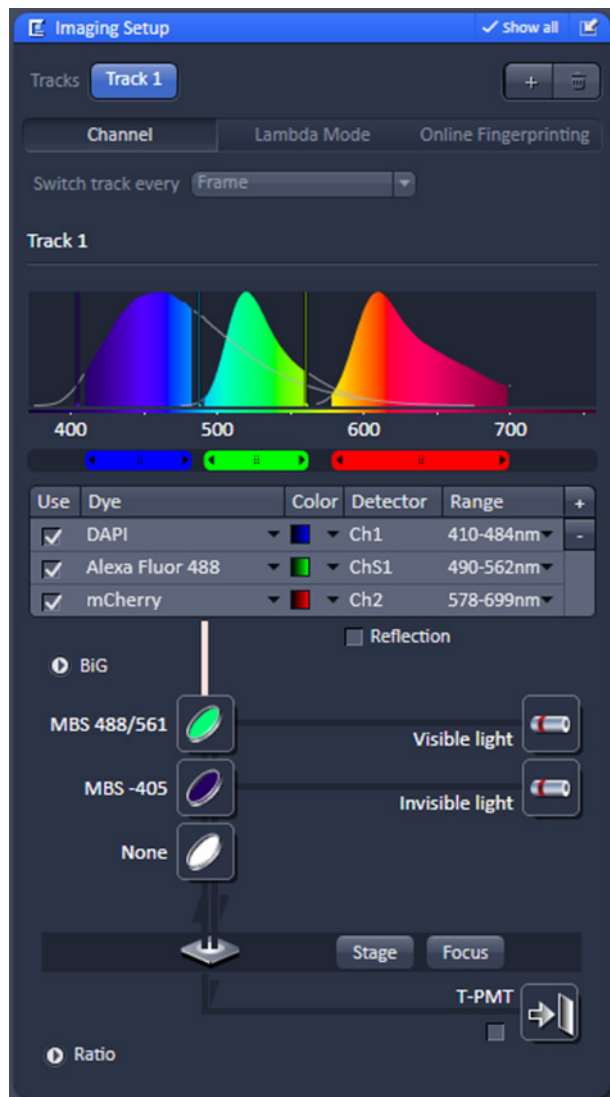

Fig. 95 Imaging Setup tool
- Click on the **Imaging Setup** tool or close the tool window (Fig. 95).